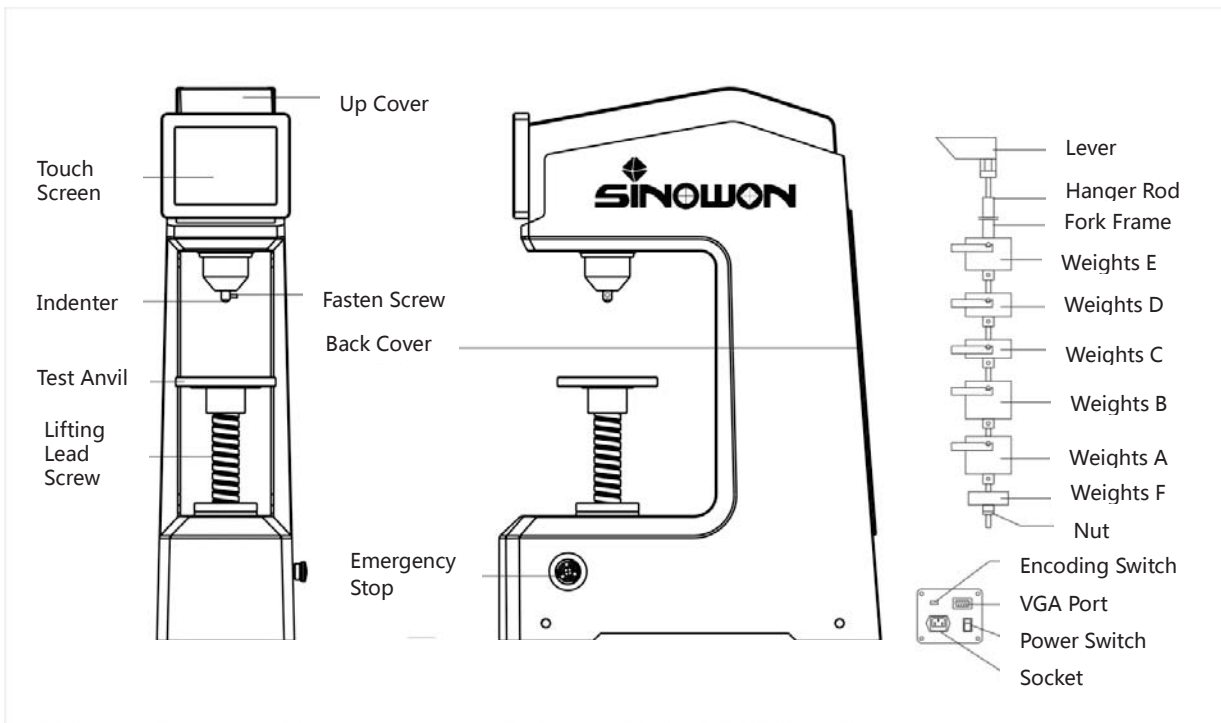

Fig 3-3 Twin Rockwell Hardness Tester Components Illustration (6 Weights)
3.4.3 Twin Rockwell Tester Weights Installation, the step is same with Rockwell tester, but with two more weights. See Fig 3-3.